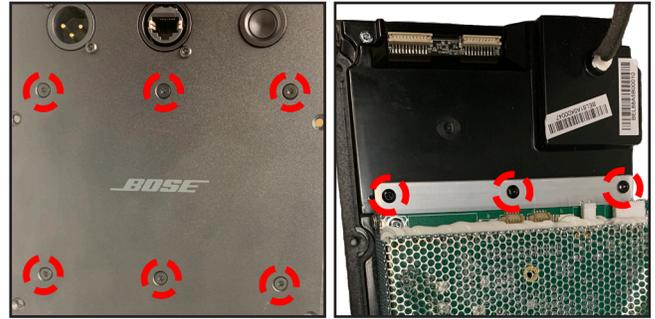

Figure 15. Power-Amp Board Screws Removal
4.2 On the front of the I/O panel assy, remove the 6 screws (left) and turn it over to remove the 3 screws (right) securing the Power-Amp board as indicated in Figure 15.